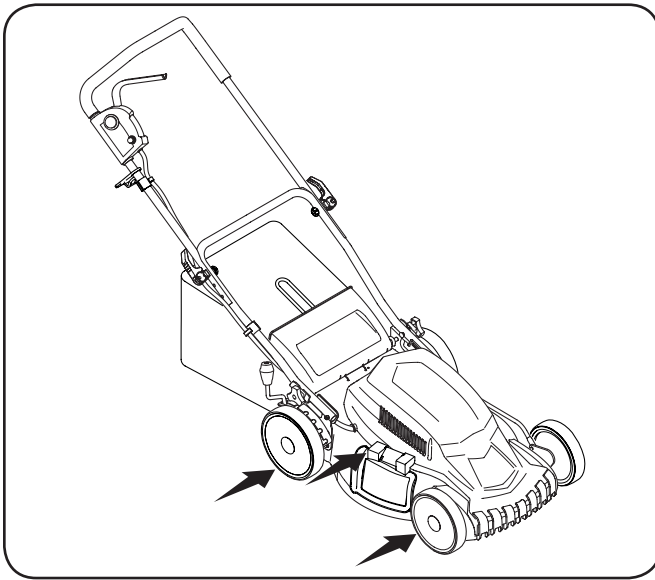

Figure 6-1
1. Lubricate the wheels at least once a season with light oil (or motor oil). If wheels are removed for any reason, lubricate surface of the pivot arm and inner surface of the wheel with light oil. See Fig. 6-1.